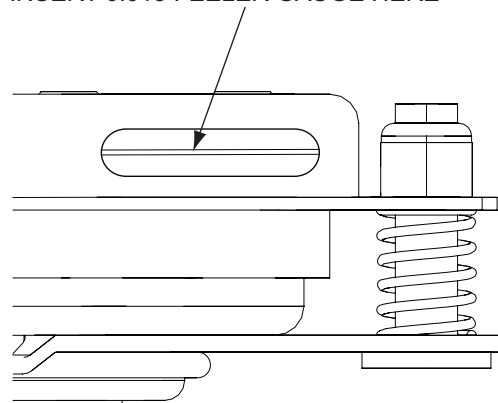

Figure 6-7. Clutch Inspection Window
2. Place a 0.015" feeler gauge between the rotor and the armature. See Figure 6-7.